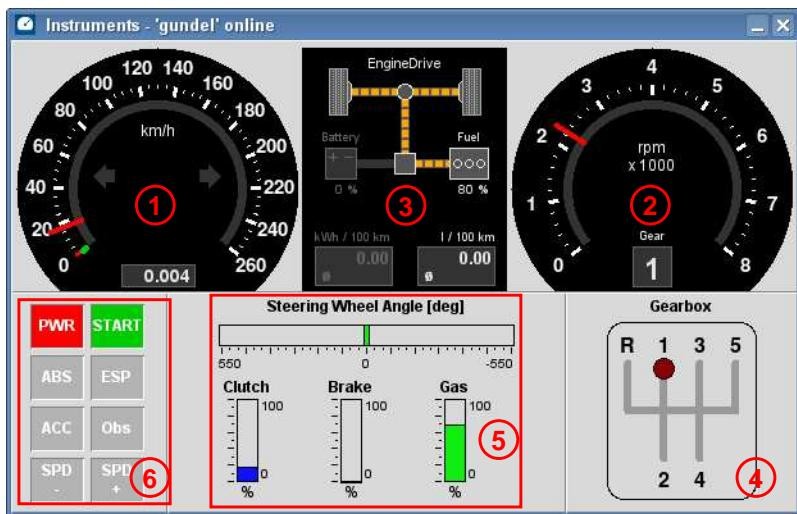

Figure 9.1: The standard Instruments panel
- tachometer (1)
- rev counter (2)
- fuel consumption (3)
- energy flow (in case of hybrid powertrain) (3)
- current gear number (2) + (4)
Further, the driver's steering wheel movements and pedal actions are displayed in section (5) of Figure 9.1.
The control lights in section (6) of Figure 9.1 show the current vehicle status regarding ignition (*PWR*) and engine switch (*START*), as well as the availability of vehicle control systems such as ABS, ESP and ACC. A green light indicates the readiness of a system, a red light means the system is deactivated and a grey box implies the vehicle model does support this module.